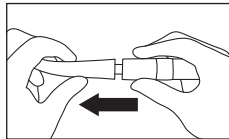

Fig. 10
- 5) Remove the handpiece from the motor. (Fig. 10)